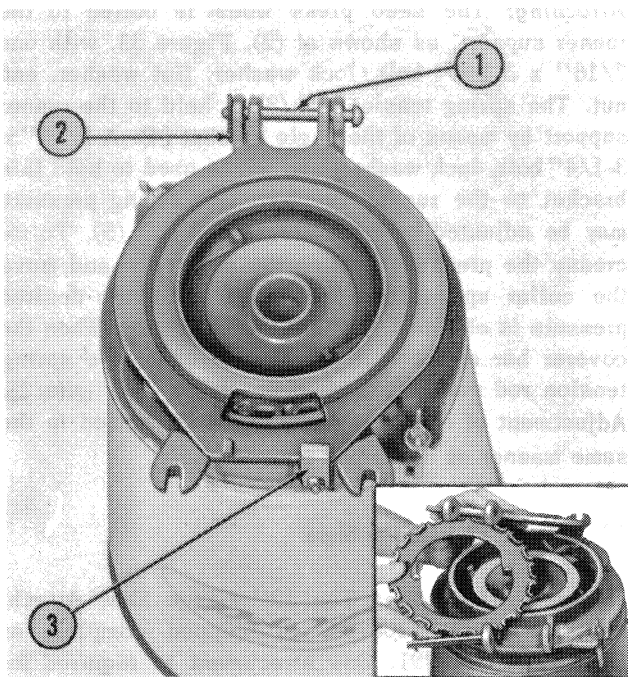

Figure 35
Attaching: Place the pin (1), Figure 35, in the cast lug on the hopper base (1), Figure 36. Lower the hopper into position over the support so that the cast lugs on the hopper coincide with those on the support. Position the hold-down bolts (2), Figure 36, in the
slots and tighten the wing nuts. To change seed plates, loosen the wing nuts, tip the hopper forward and remove it. Remove the hairpin (2), Figure 35, and the pin (1). Slide the base plate out from under the clip (3). Change the seed plate and replace the base plate with the groove side up or down, as explained on page 5, under "Hopper Information". Lower the hopper back onto the support and tighten the wing nuts.